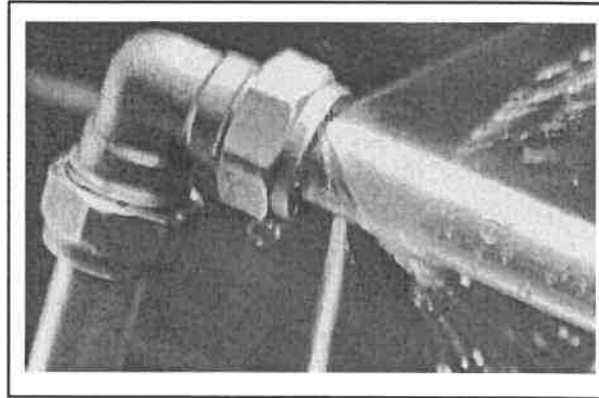

FIGURE 4.4
- 4.4 FIGURE 4.4 below shows a copper pipe joint that has a leak because the compression ring/ferrule is damaged. (4)